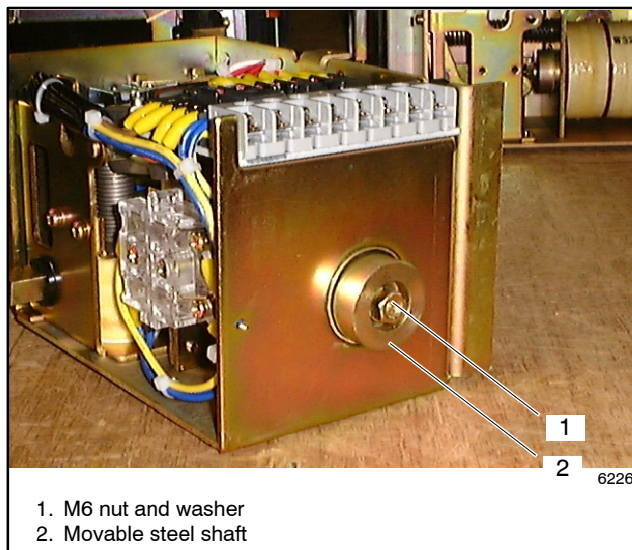

Figure 8-15 Movable Steel Shaft, 100–400 Amp Models
4. See Figure 8-15. Remove the M6 nut and washer. Turn the movable steel shaft counterclockwise to remove it.